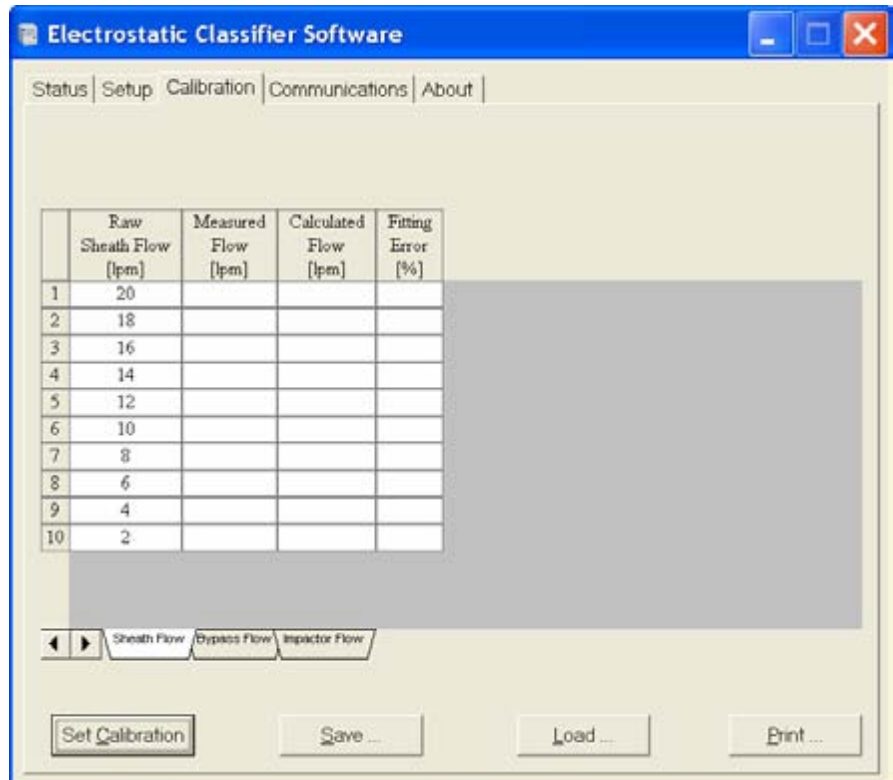

Figure D-6
- 10.** Enter the data into the EC program (Figure D-6) under **Sheath Flow Calibration** tab and click on the **Set Calibration** button, which calibrates the instrument.